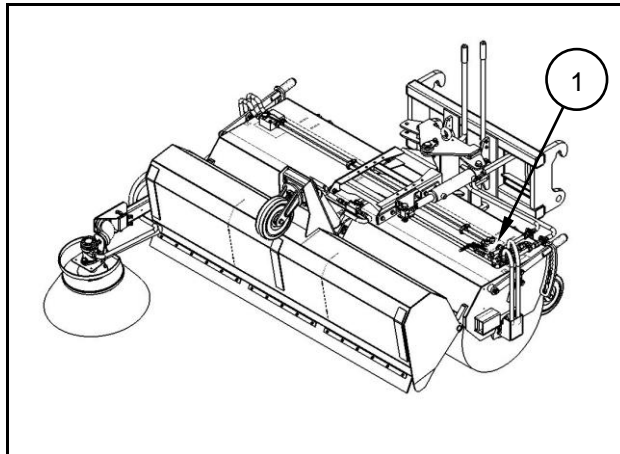

Fig. 6.1
- Close shut-off valve (1) for the emptying- cylinder (Fig. 6.1) (must face the rear support wheel).